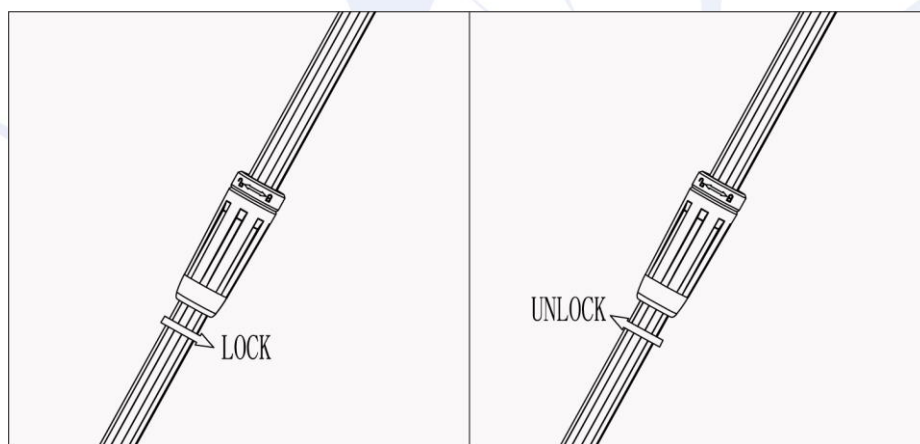

Fig.3
3. With the locking knob lock pole joints. (IMPORTANT: Must not move until the rotation to the rotation) (See Fig.3)